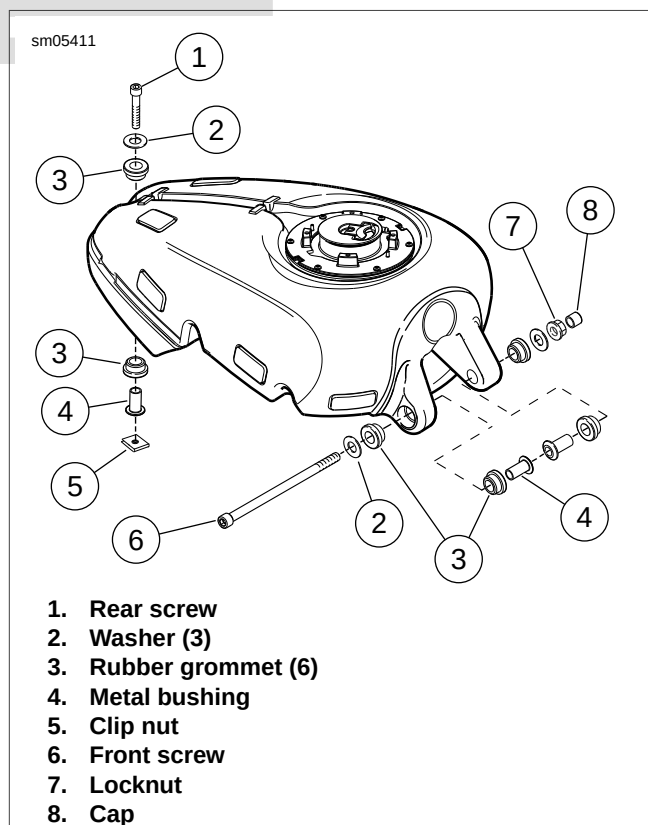

Figure 4-26. Fuel Tank Mounting
See Figure 4-26. Metal bushings (4) inside the grommets (3) may fall when fuel tank is lifted off vehicle. Make sure they do not fall out and become lost.
- See Figure 4-26. Install rubber grommets (3) in both front mounting holes of fuel tank. Insert metal bushings (4) into rubber grommets, oriented as shown. Make certain clip nut (5) is installed on frame bracket.
- Insert screw (6) with washer (2) through fuel tank front mounting brackets and vehicle frame. Install remaining